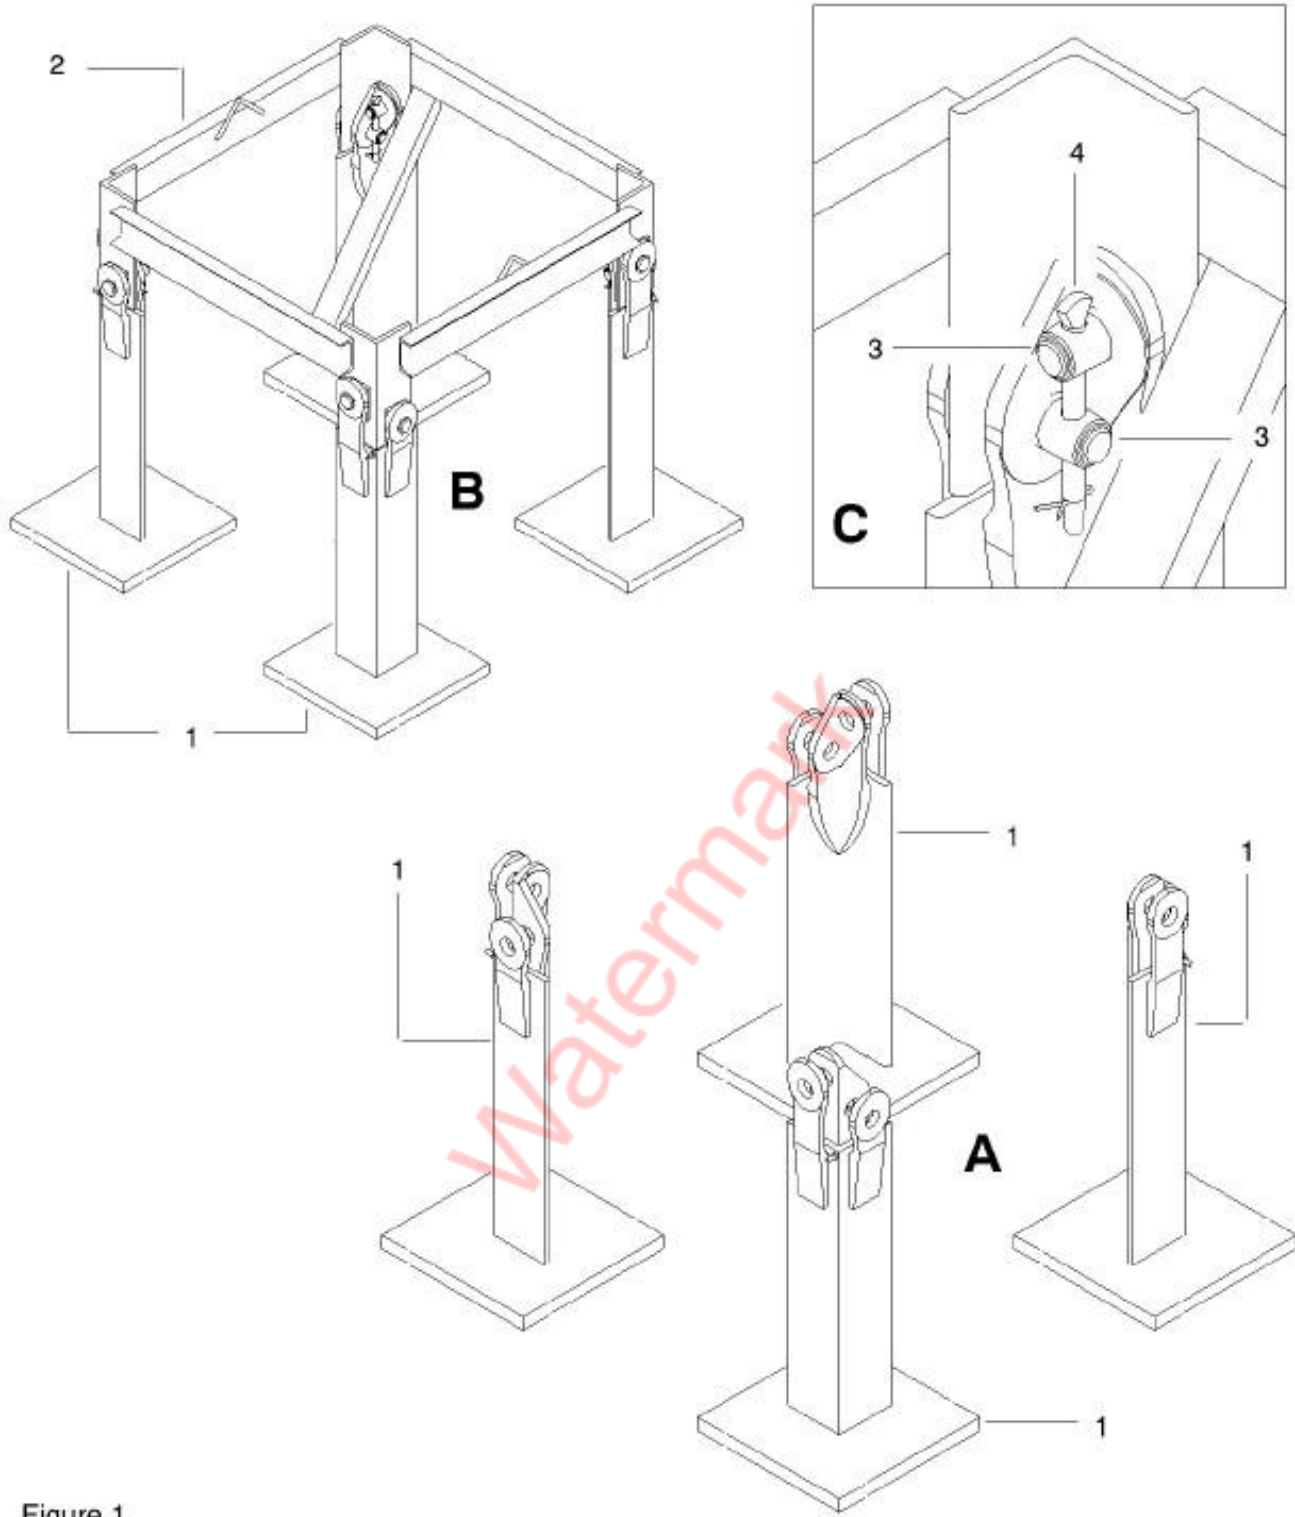

Figure 1.
- Outside or inside the ditch, arrange the fixing angles (1) by observing their distance (Detail A – Figure 1).
- Pin-connect the template (2) to the fixing angles (1) by means of 4x2 shafts (3) .Lock the shafts (3) using the pins (4);fix the pins with split pins(Detail B,C-Figure 1)